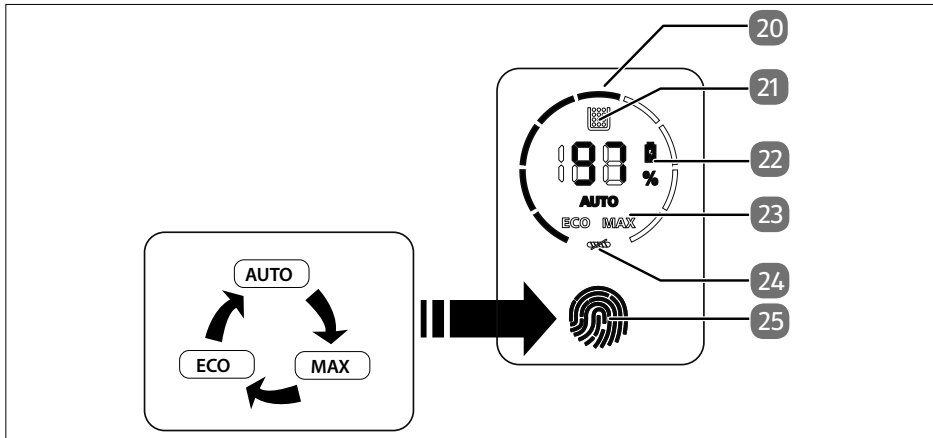

Fig. 2 – Controls
2. Switch on the vacuum cleaner by pressing and holding the on/off switch (21). Lock the on/off switch by pressing the lock button (22).
4. Touch the control field (20) to set the **Auto**, **Max** or **Eco** function mode (see Fig. 2).